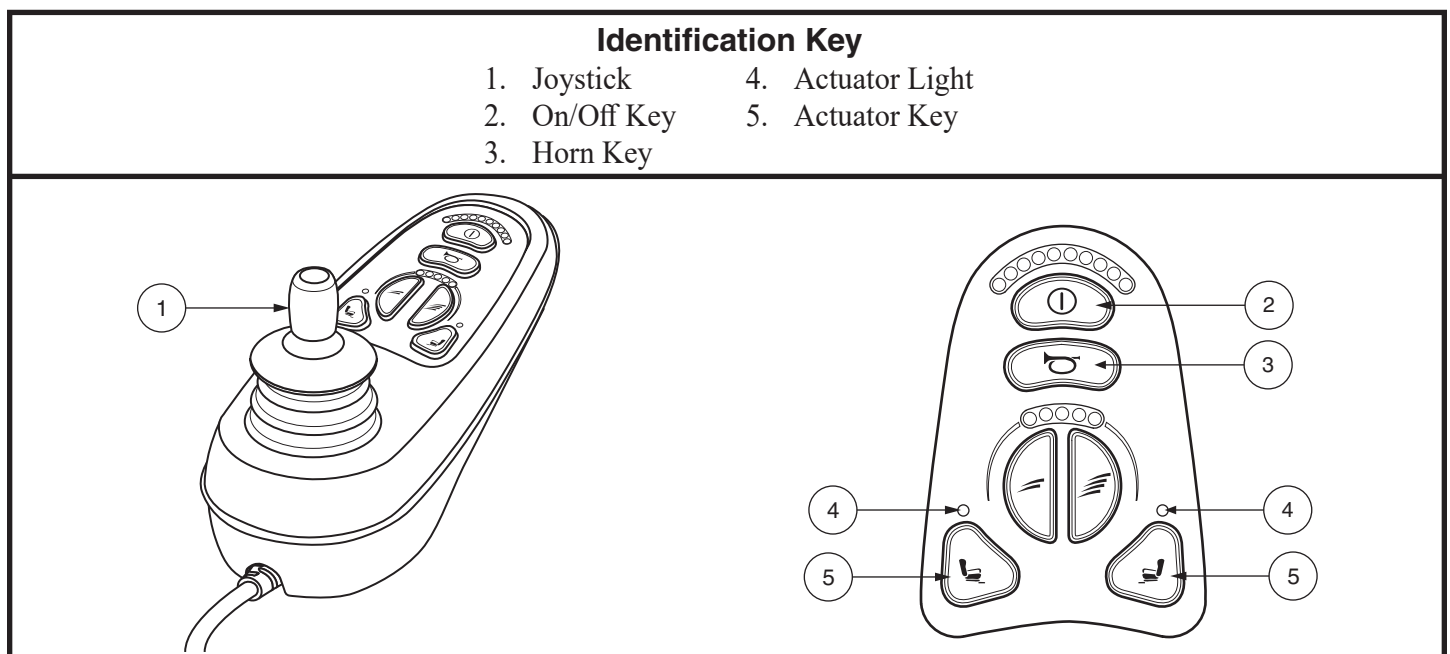

Figure 11. VR2 6-key Controller and Keypad
1. Push the on/off key to power on the chair and the controller. See figure 11.
2. Push the desired actuator key to select actuator mode. See figure 11.
5. Push the on/off key to return to drive mode. See figure 11.